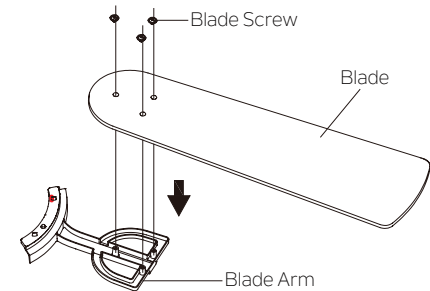

Fig. 19
Step 1. Position the blade over the blade arm with threaded posts showing. Make sure the bottom edge of the blade is fully seated against the blade arm. With a Phillips screwdriver, start a screw into the blade arm (do not tighten) and repeat for the 2 remaining blade screws. Tighten each screw securely starting with the center screw. Make sure the blade is straight. Repeat steps for the remaining blades. (Fig. 19)